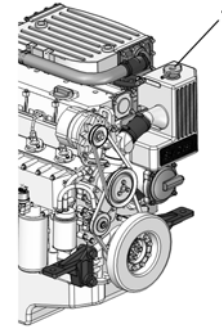

Fig. 4.2.2
Never open the oil plug (1) when the engine is hot as it can release steam or splashes of hot coolant. Stop the engine and wait until it gets cold to do the coolant change. See fig 4.2.2.